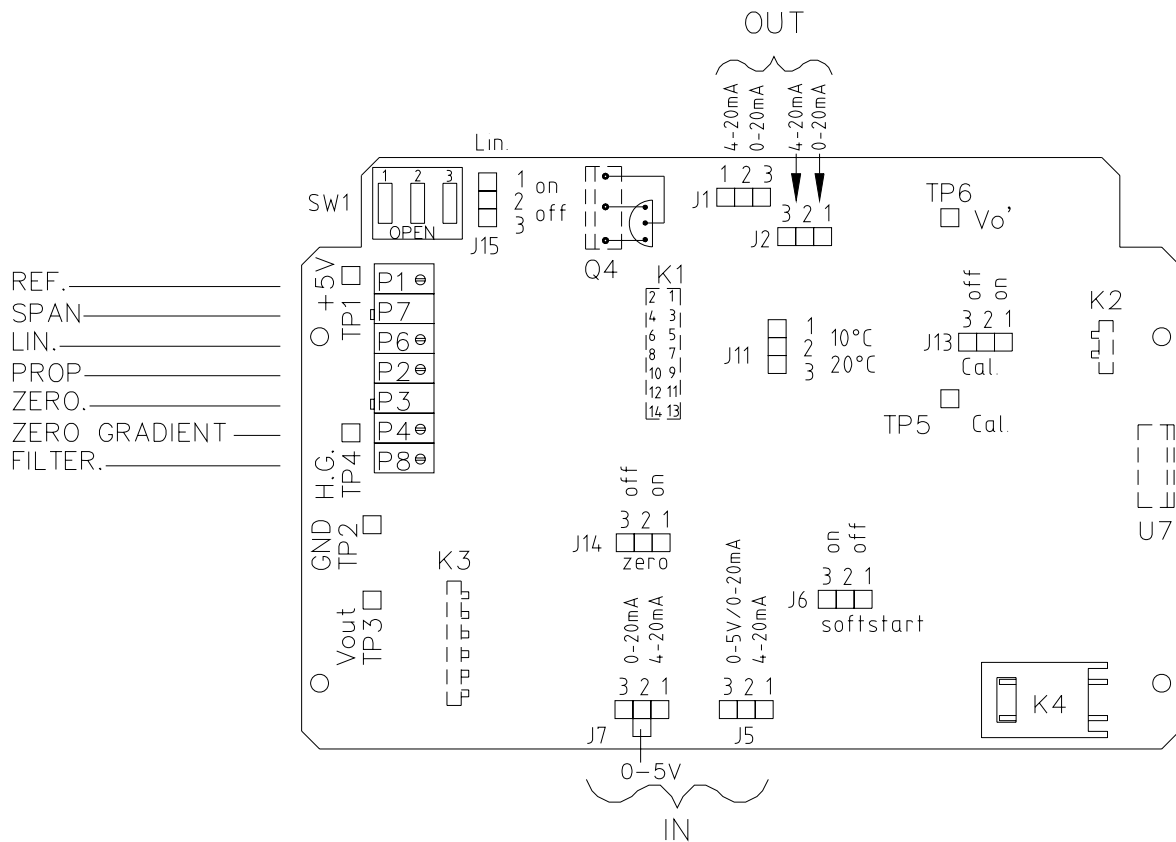

Figure 3-5 Jumper Settings for Flomega
**MODEL 5882/92 (see figure 3-5)****ELECTRONIC FEATURES**